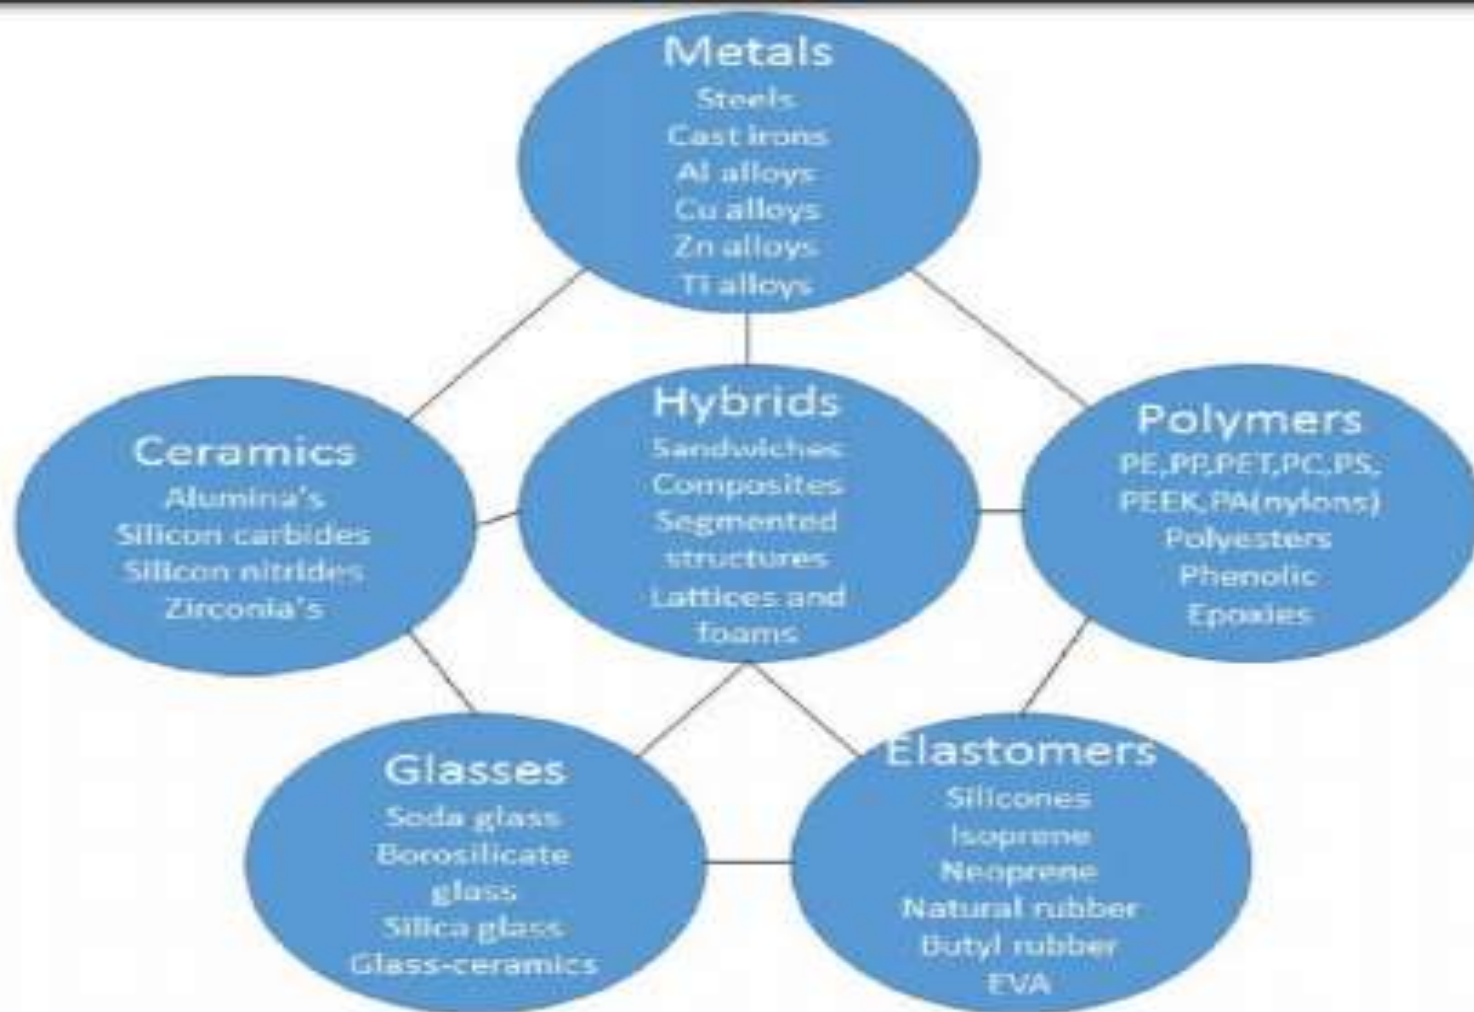

Figure M1.3.1: Classification of engineering materials in to six broad families.
- Engineering materials can be classified into six broad families as shown in Figure M1.3.1.